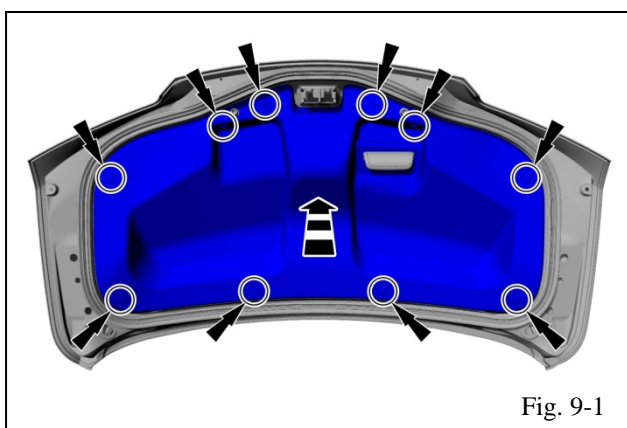

Fig. 9-1
- (a) Using the (10) fasteners previously removed, reinstall inner trunk liner (Fig 9-1).